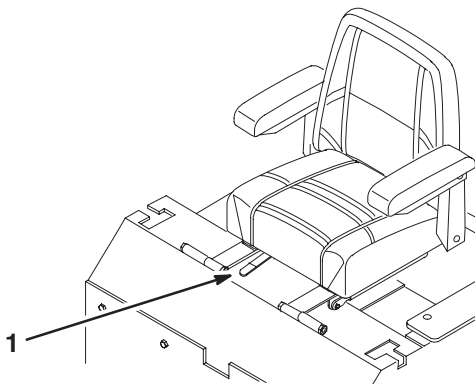

Figure 25
1. To adjust the cam locks, swing the lever up to loosen the cam lock (Fig. 25).
1. To adjust, move the lever sideways to unlock the seat (Fig. 25).